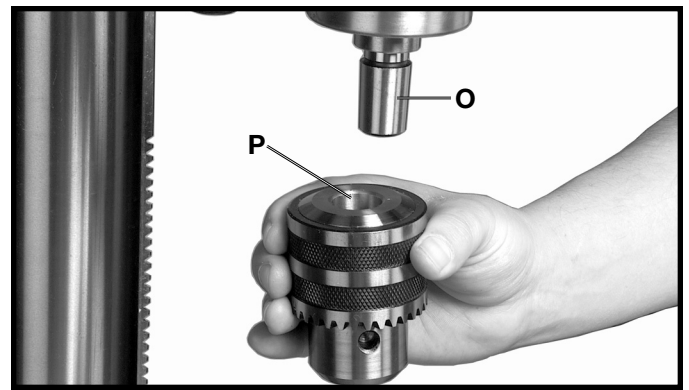

Fig. 14
14. **IMPORTANT:** Make certain the spindle taper (O) Fig. 14, and tapered hole in chuck (P) are clean and free of any grease, lacquer or rust preventive coatings. **NOTE:** Household oven cleaner can effectively remove any substance from the chuck; however, carefully follow the manufacturer's safety rules concerning its use.